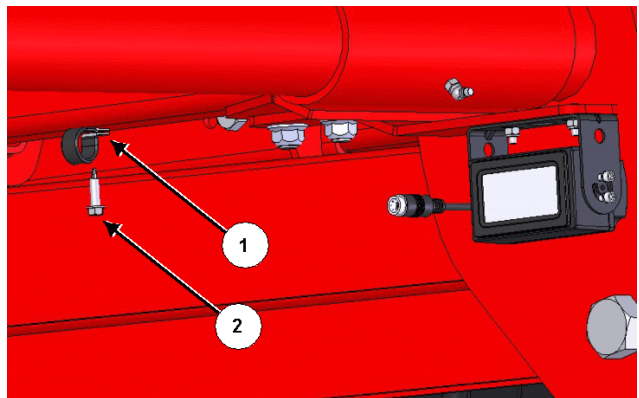

Figure 5: Mount a loop clamp
4. Mount a loop clamp (1) onto the rear table frame, see *Figure 5*.
- a. Place a $\frac{1}{4}$ " x 1" self-tapping screw (2) through the loop clamp and loosely attach to the frame, see *Figure 5*.
- b. Feed the wiring through the loop clamp (see *Figure 5*) and route to the rear of the unit following the side rack hoses. Loop the cables around at the rear table pivot and follow the lighting harness to the front of the machine.